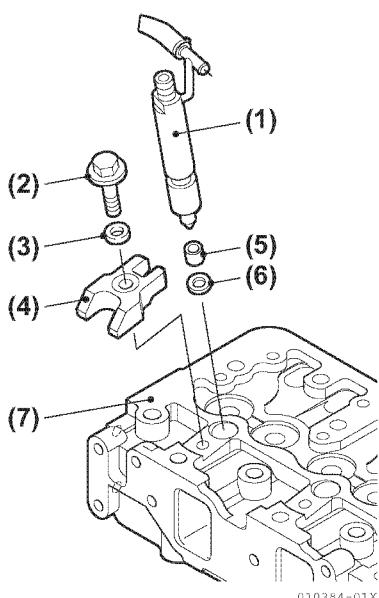
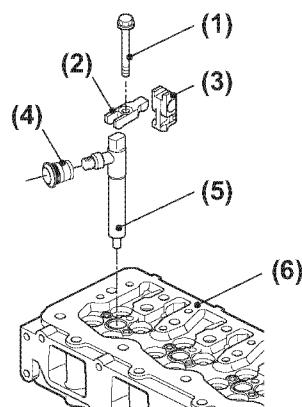

Figure 6-11
Figure 6-12
2. Install new gasket (Figure 6-11, (6)) on tip of injection nozzle (Figure 6-11, (1)) and (Figure 6-12, (5)).
3. Place the retainer (Figure 6-11, (4)) for 3JH4E or (Figure 6-12, (3)) for 4JH4-TE and 4JH4-HTE on the injection nozzle as shown. Note: If installing used fuel injection nozzles, clean the injection nozzle prior to installation.
4. 4JH4-TE and 4JH4-HTE: Install the pipe seal (Figure 6-12, (4)).
6. Install bolt and washer (Figure 6-11, (2, 3)) and tighten to 26 N·m (19.2 in.-lb).